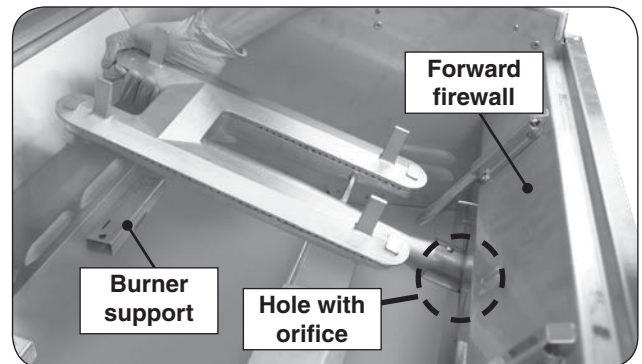

Fig. 33-3 Remove burners
3. Carefully lift the burner from the burner support and out from the hole in the forward fire wall. See Fig. 33-3.